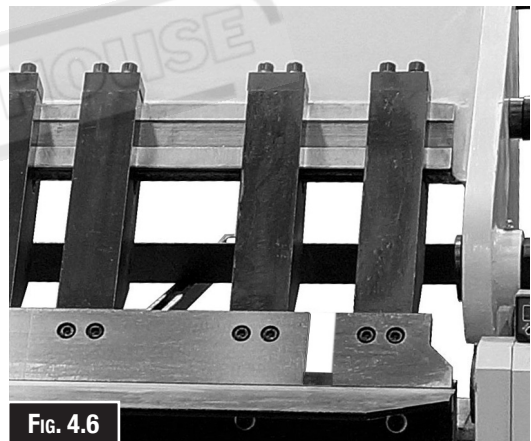

FIG. 4.6
1. Install enough fingers to match the width of the metal to be bent (Fig. 4.6)